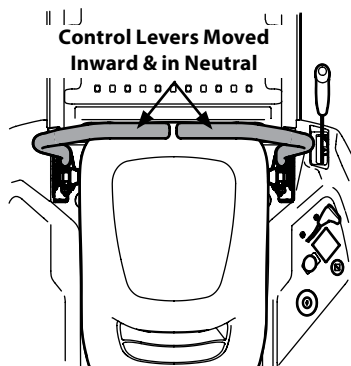

Figure 3-3
2. Move the RH and LH drive control levers inward in the neutral position which also disengages the parking brake. Refer to Figure 3-3.